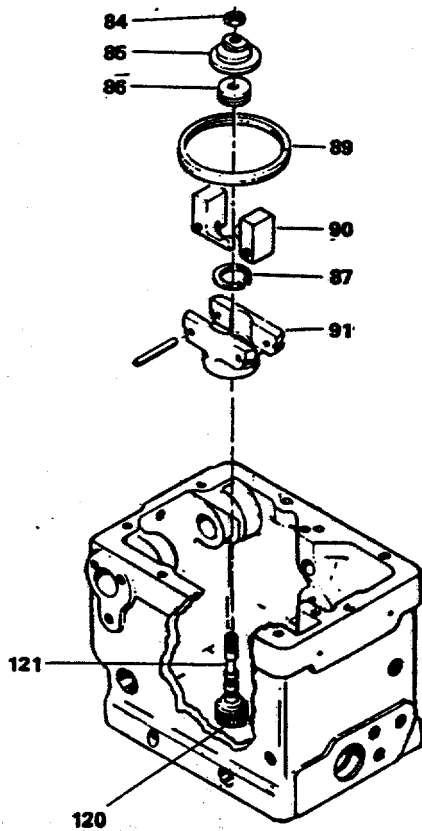

Figure 12-22. Ball Head Assembly
- (a) Lubricate packing (151) and place it on load sensing sleeve (153) and insert sleeve into case.
- (b) Insert sleeve (116), plunger (115), spring (112), and spacer (114) into case.
- (17) Place ballhead assembly (91) in case on pilot valve plunger (121). Secure with retaining ring (87). (See figure 12-22.) :
- (18) Install thrust bearing (86), speeder spring seat (85) on pilot valve plunger (121) and secure with nut (84). Do not tighten nut (84).
valve plunger is centered, tighten nut (84), figure 12-22, to 70 inch-pounds (8 joules).